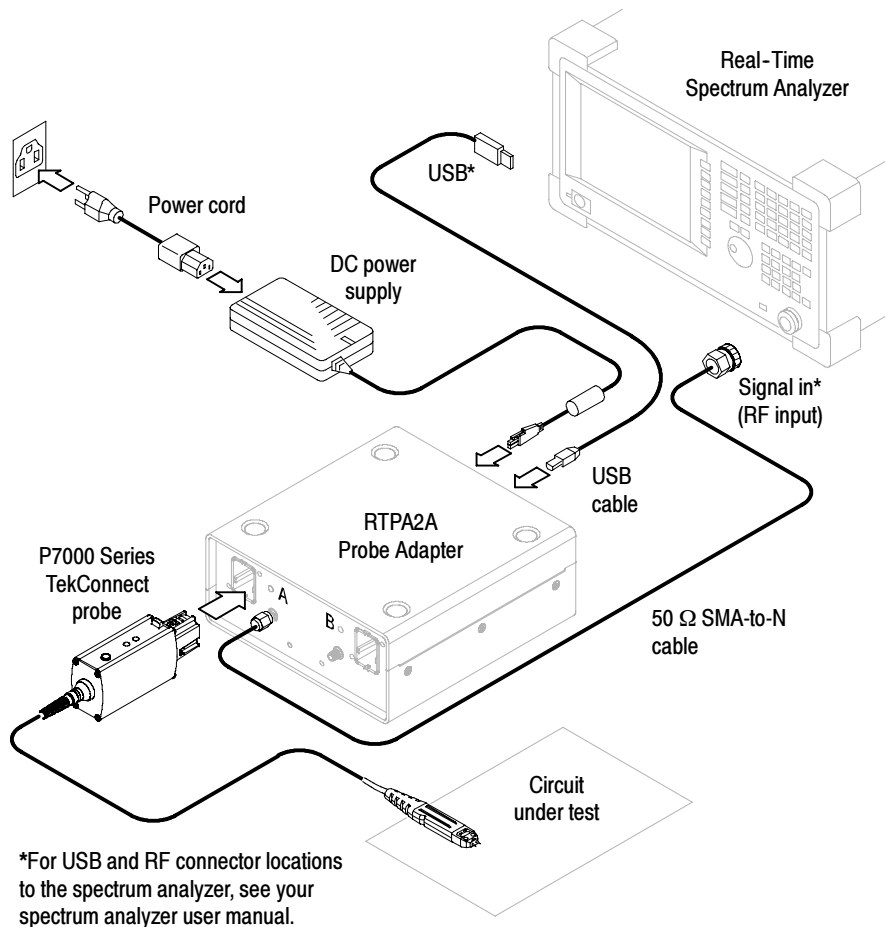

Figure 5: Connecting the RTPA2A components
2. Connect the probe adapter as shown in Figure 5. If necessary, refer to *Installing the Probe Adapter* on page 7 for more information.